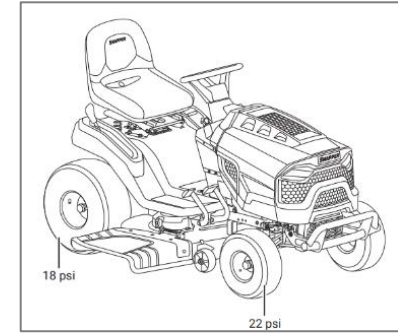

Fig. 10
- **Front Tires: 22 psi** (Fig. 10)
- **Rear Tires: 18 psi** (Fig. 10)